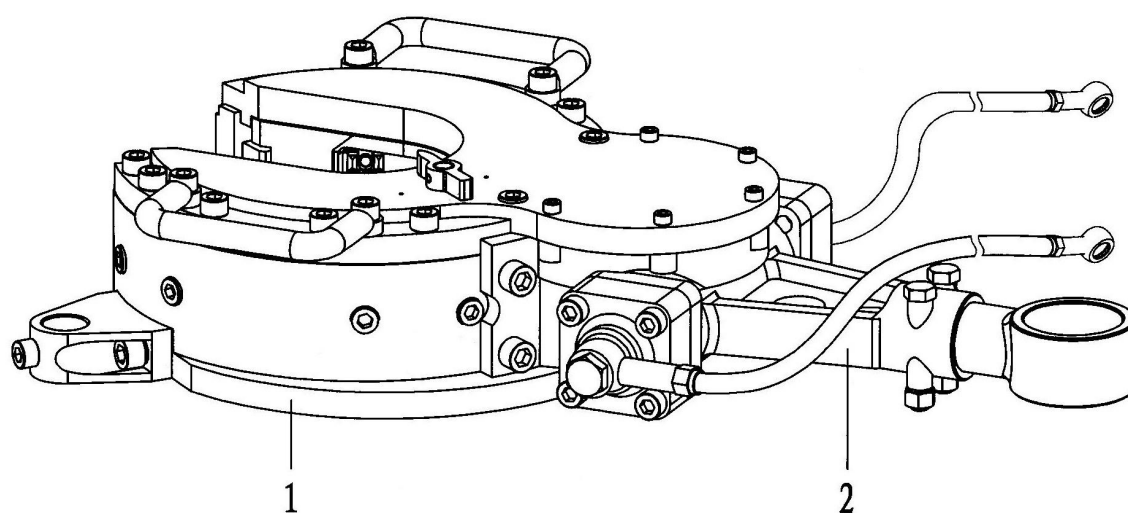

Fig.8-9
8.9 Backup tong and parts list(Fig.8-9,Table 8-9)